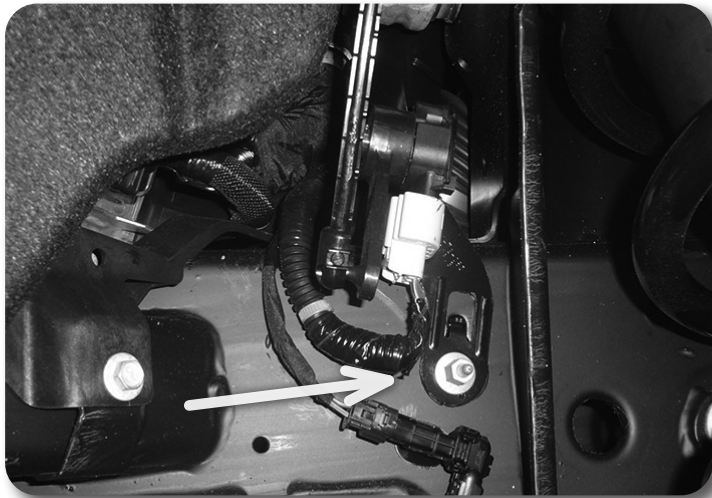
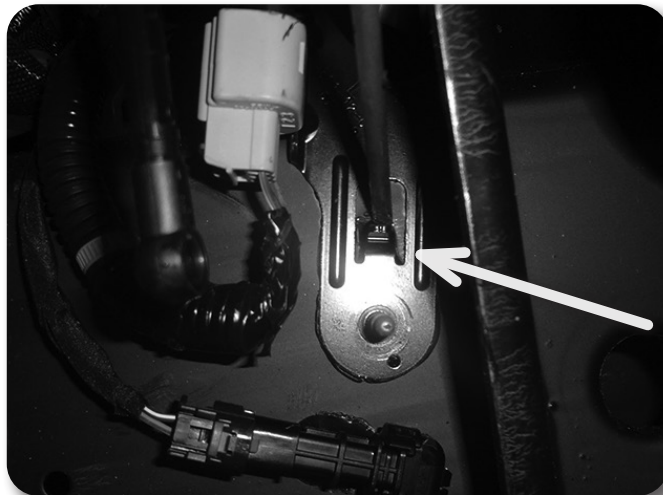

Figure 48B
Figure 48C
72. **6" Denali Models (ARC Models) Only:** Remove the nut attaching the ARC sensor to the frame **Fig. 48B**. Lightly reattach the nut to the stud. Tap the stud in until the bracket assembly is loose. Remove the ARC sensor from the frame by prying down on the tab and pulling out on the sensor bracket **Fig. 48C**.